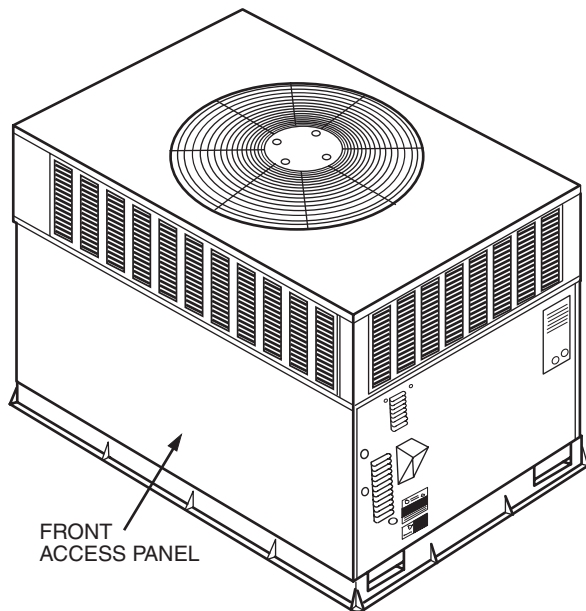

Fig. 17—Unit Access Panel
1. Remove unit access panel (See Fig. 17).
3. Remove unit access panel (See Fig. 17).